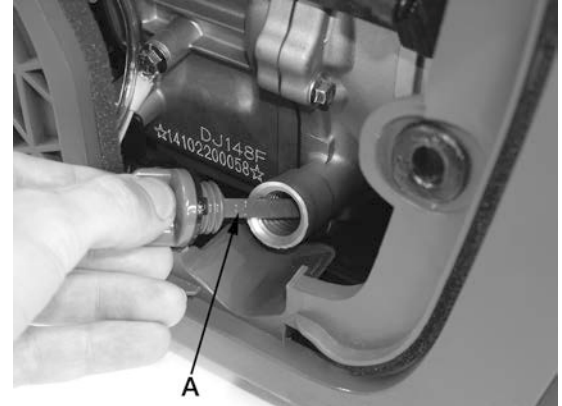

Figure 8
- 1) Open rear access panel, then loosen and remove the oil gauge dipstick (A) Fig.8.